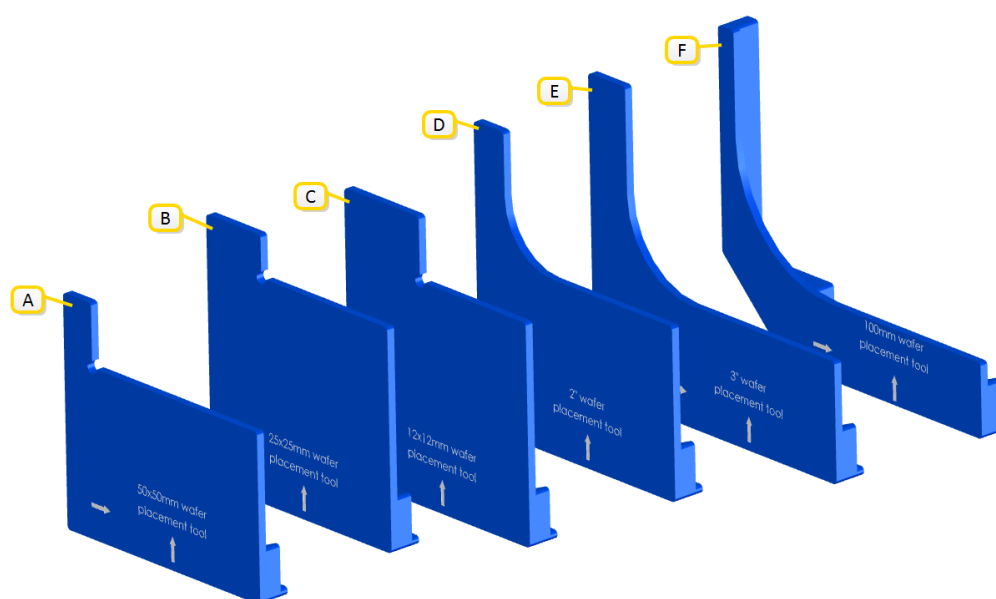

Figure 3-9 Substrate placement tools
3. Take the placement tool set as shown in **Figure 3-9 below**.